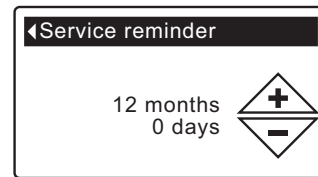

FIG. 85
7. Press the SELECT (O) button to display the Service reminder screen (See Figure 85).